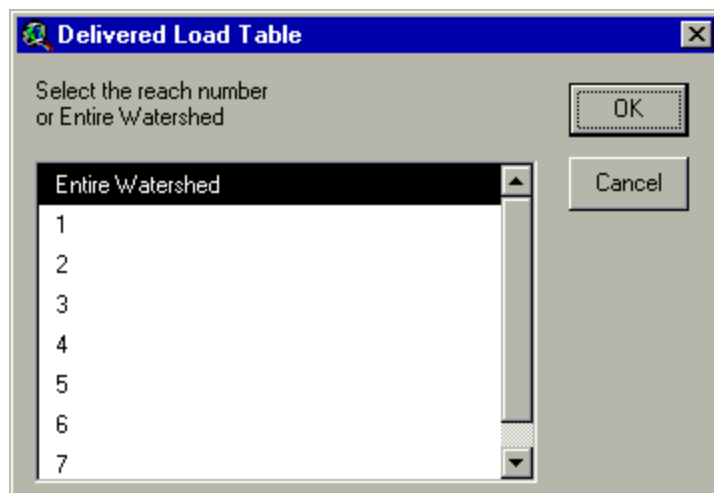

Figure 13.48
3. A prompt box is displayed for the user to select the location in the channel network at which the calculation is made (Figure 13.48).